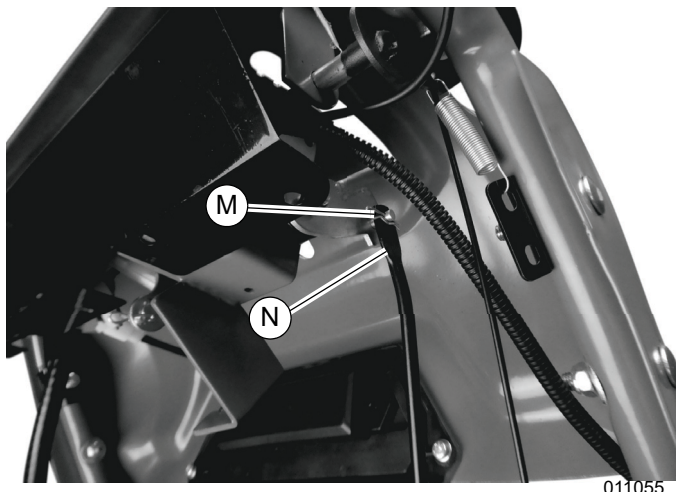

Figure 2-9. Upper End Shift Connection Bar
8. See Figure 2-9. Remove pin (M) and install upper end of shift connection bar (N).